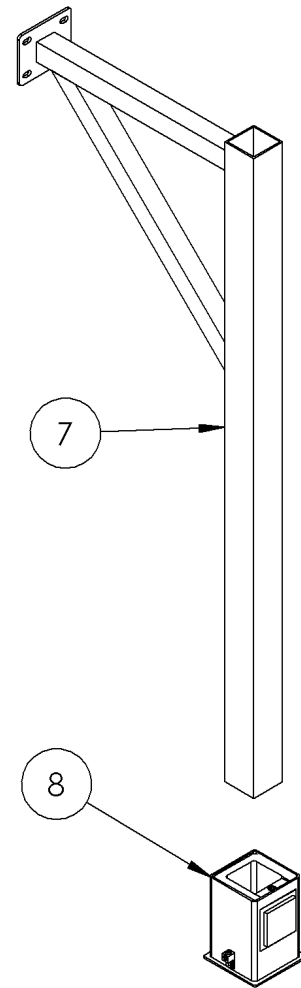

**Fig. 4**
4. Basketball units are to be anchored to the deck using 6 inch deep AS-100P anchor sockets. Install the anchors in the pool deck 17-1/2 inches apart on center and 12 inches back for residential versions or 18 inches back for commercial versions, shown in **FIGURE 4**. Properly bond the anchor sockets using the attached bonding screw and the appropriate bond wire per local codes. Allow concrete to cure before installing the basketball unit.